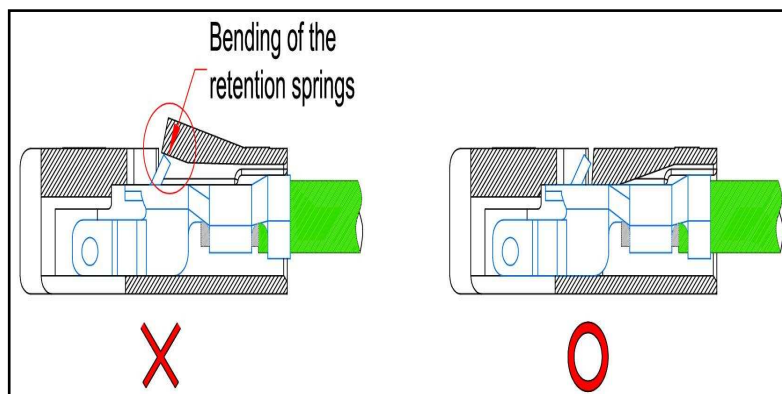

figure 1.3
- ※ Misalignment of the crimped contacts should be avoided because of possible bending of the retention springs, and therefore impaired contact retention in the contact cavity. (see figure 1.3)